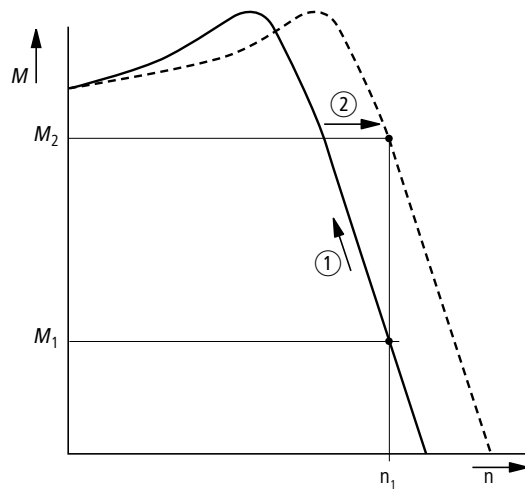

Figure 107: Speed behavior with slip compensation
- ① Stator winding
- ② Air gap
- ③ Transformed rotor winding
An exact calculation requires the precise rating specifications of the motor (parameter group 7). The speed control ($P11.8 = 1$) can then compensate the load-related slip deviations. The simple illustration shows that, as the load torque increases (①), the resulting speed reduction is compensated by an increase in the output frequency (②) (→ Figure 107).